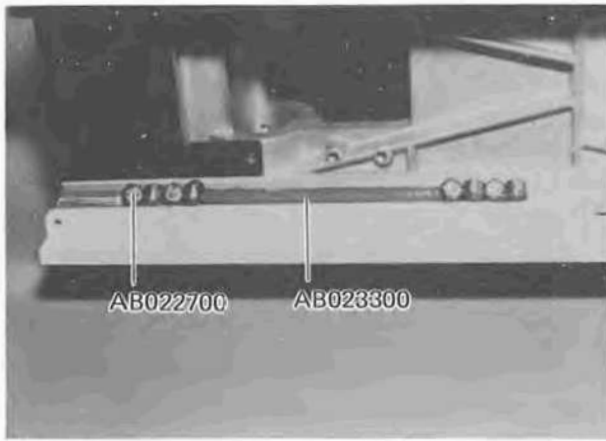
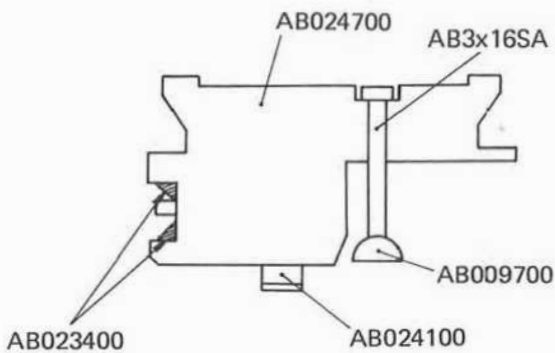
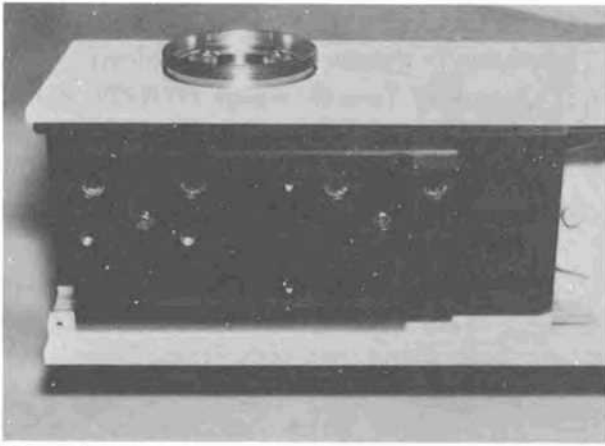

Fig. 4-4
Fig. 4-5
Fig. 4-7
2. Arrange the Rollers in alternate directions as shown in Fig. 4-4 and place the Spacer at the center. (See Fig. 4-4.)
The Wires should be assembled by the same procedure as that for assembling them with the Arm. (See Fig. 4-5.)
- 4-1-7 Mount the Inner Guide (Fig. 4-5) on the Arm (Fig. 4-4). (See Fig. 4-7.)